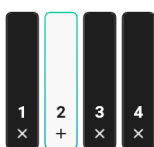

Figure 29 Confirming maintenance rinse positions with positions 1, 3, and 4 selected, and position 2 unselected.
- Unselect the positions you do not want to rinse (see Figure 29). By default all positions are selected.